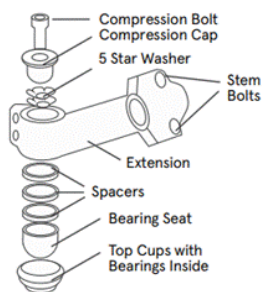

Fig. 3
2. Align the handlebar stem with the front wheel (See Fig. 3).